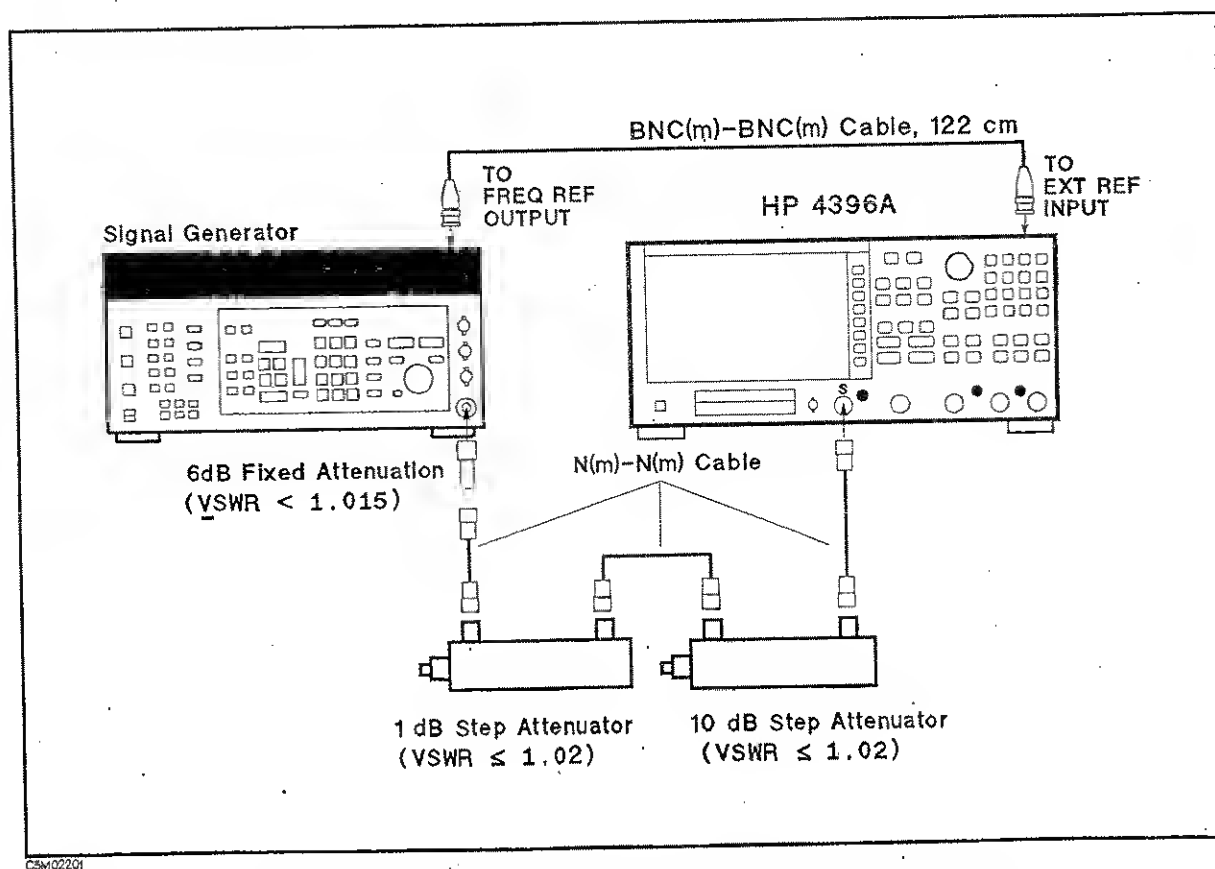

Figure 2-24. IF Gain Switching Uncertainty Test Setup
4. Connect the test equipment as shown in Figure 2-24.
Connect the signal generator's 10 MHz frequency reference output to the HP 4396A EXT REF Input on the rear panel as shown in Figure 2-24. With this configuration, both the signal generator and the HP 4396A are phase locked to the same reference frequency to obtain a stable measurement.